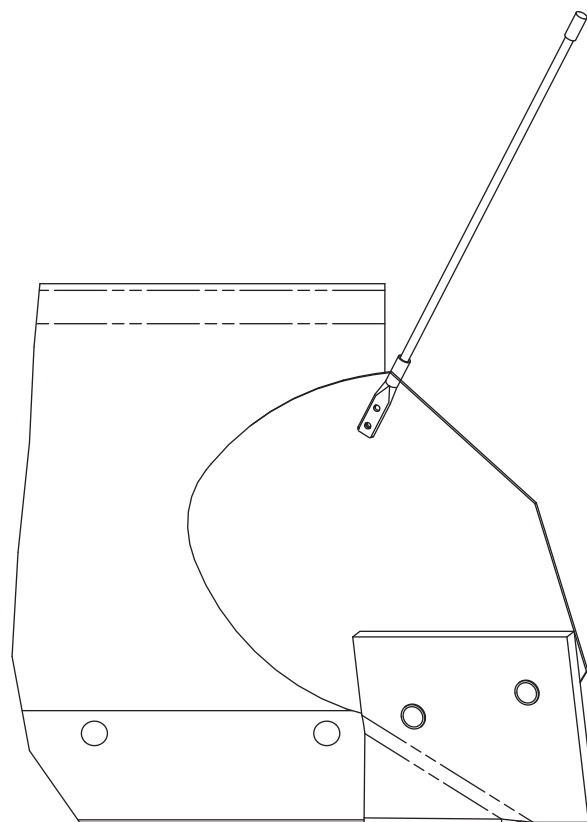

FIGURE 6.
9. Verify the plow's cutting edge on flat ground and the a-frame either mounted to the truck or level with the ground. Hold rubber cutting edge tightly against the ground, the plow's cutting edge and the Pro-Wing as shown in figure 6. Mark the location of the two holes in the bottom of the Pro-
12. Blade guides (not included) can be bolted on when desired. See figure 6.